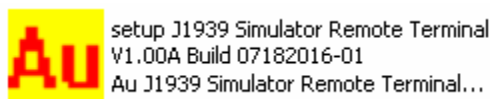

Figure A-1
1. Double click the "Setup J1939 Simulator Remote Terminal V1.00A" installation file, as shown in Figure A-1.